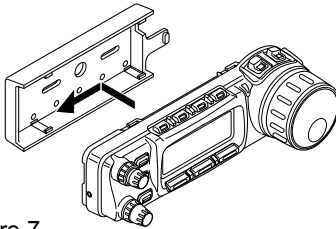

Figure 7
- To install the Front Panel into the Mounting Nest, align the mounting lugs of the Mounting Nest with the corresponding slots in the Front Panel, then insert the Front Panel into the Mounting Nest, as shown in Figure 7.